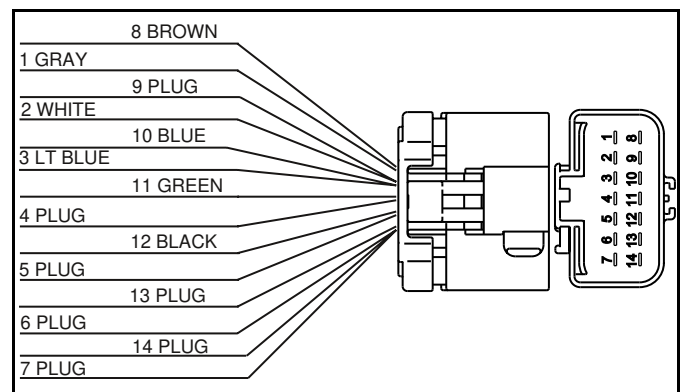

Figure 15
18. Review Figure 15 to make sure the wires are in the correct pin location. Then re-install the secondary lock for the Gray 14 pin connector and place the wires back inside the loom.